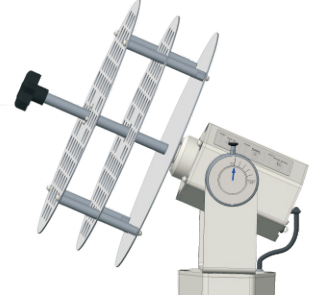

figure 5
2. Insert the special-purpose handle into the center hole and screw in the stud until the tray is fastened (shown in figure 5).